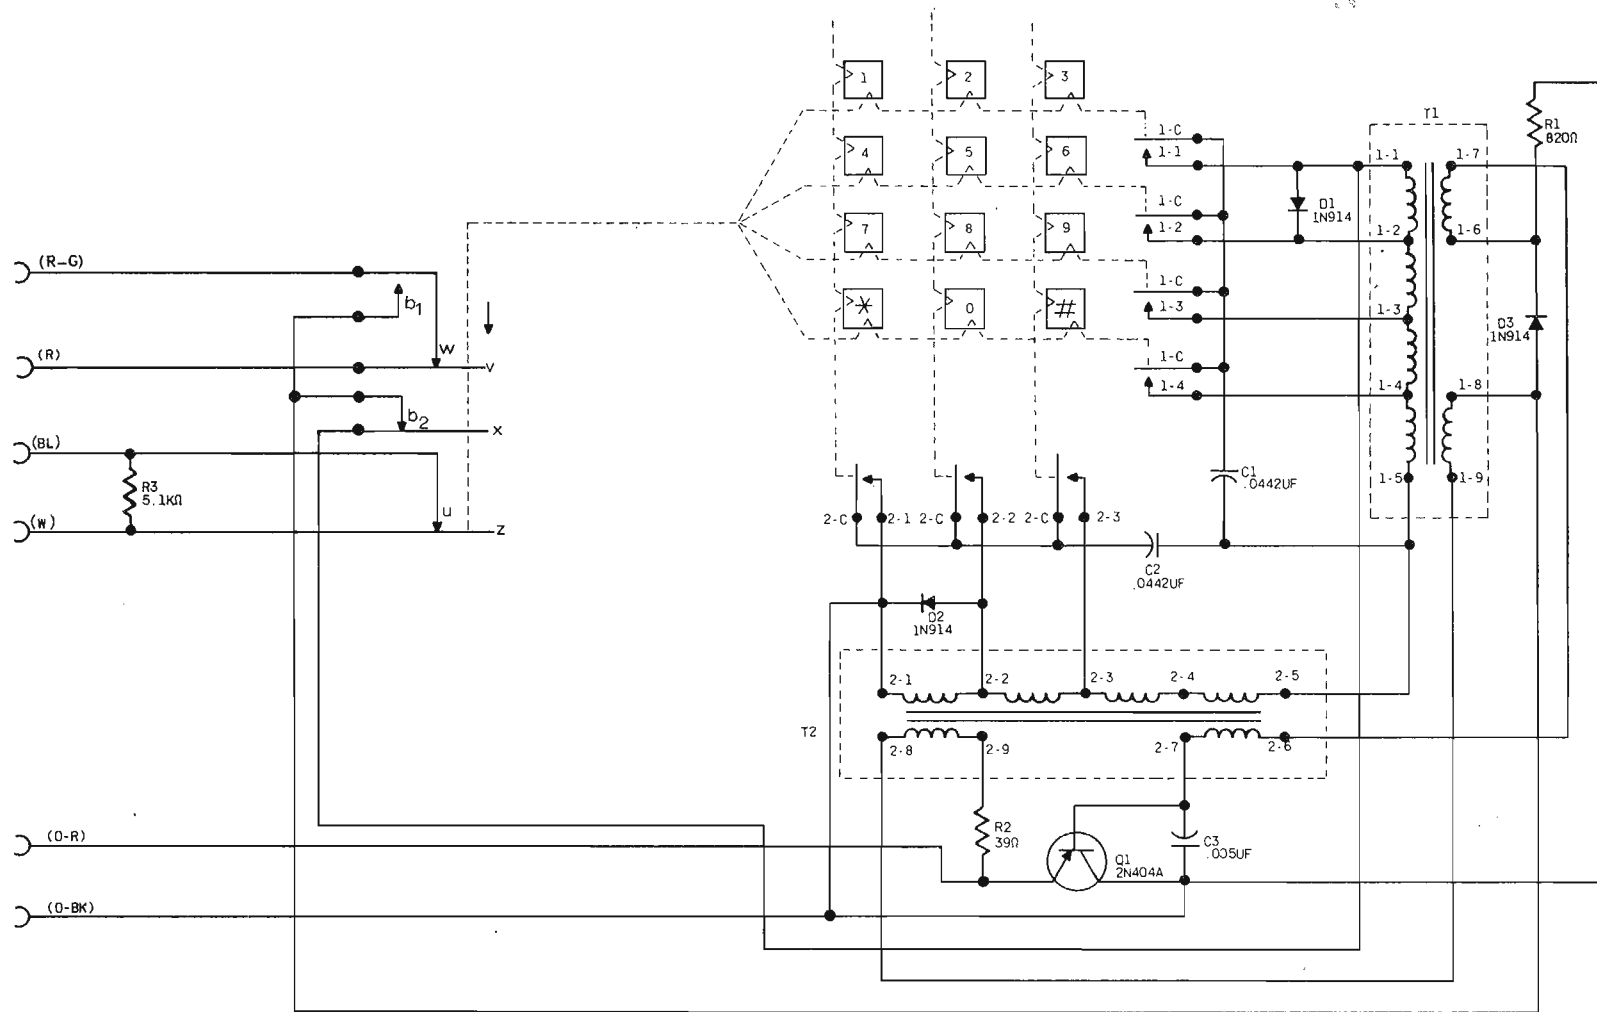

Fig. 16 - NE-35Q3E1 Dial Schematic
- Fig. 16 – NE-35Q3E1 Dial Schematic